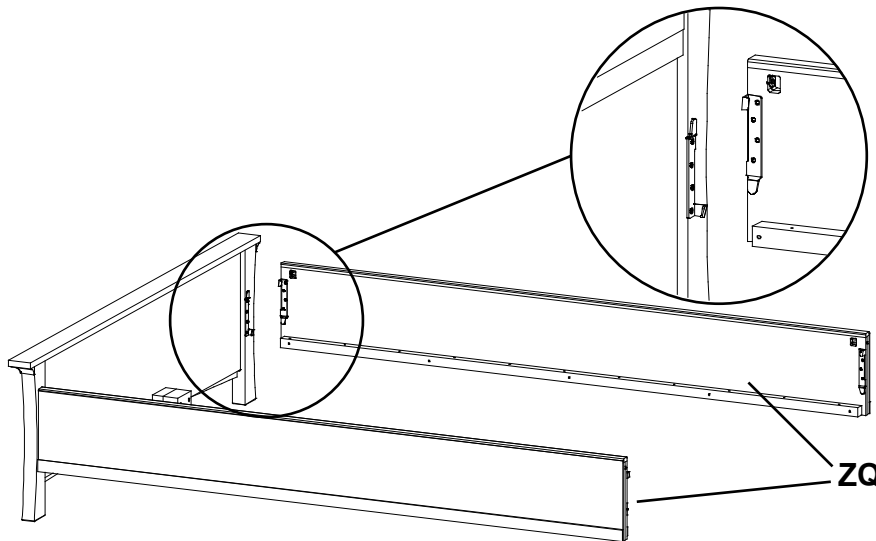

Fig. 20
20. Repeat step nineteen for the other side. See Figures 20 and 20a.